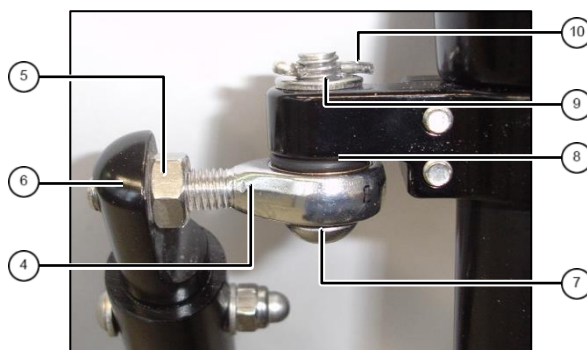

fig. 4: front linkage end
3. Turn swivel head ④ with nut ⑤ into front end ⑥ (see fig. 4). Do not tighten nut yet. Insert bolt ⑦ through swivel head and O-Ring ⑧, apply threadlock adhesive and turn bolt into steering lever. **Tightening torque: 5Nm.**
4. Stick washer ⑨ on bolt and install splint ⑩.